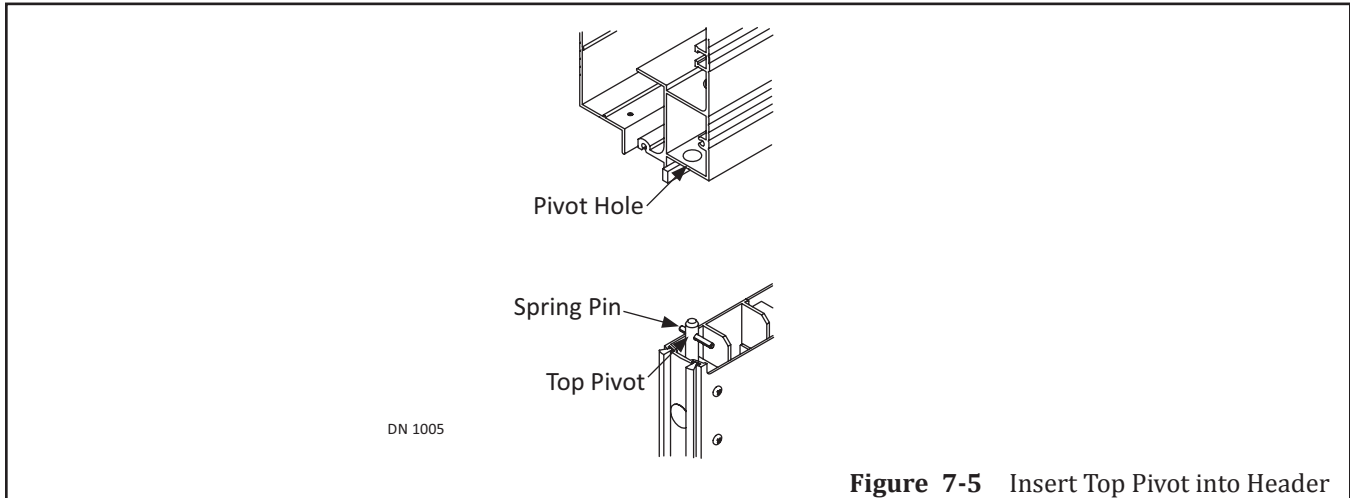

Figure 7-5 Insert Top Pivot into Header
3. Go to the Top of the Pivot Stile. Locate the Top Pivot. Please see Figure 7-5.